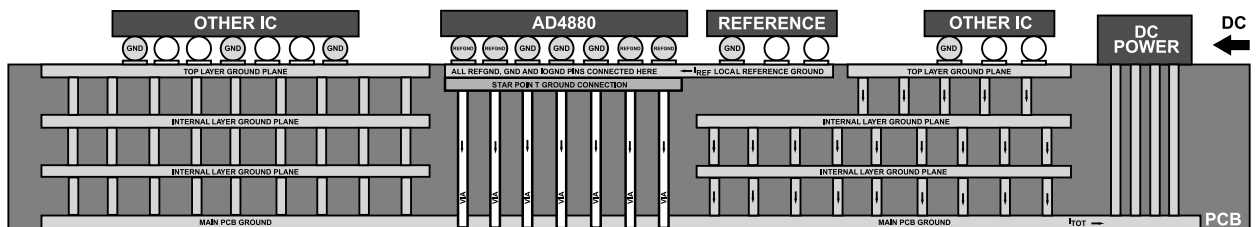

Figure 144. Recommended PCB Ground Planes Layout
- ▶ For the side view cross-section of the PCB board showing the ground planes distribution, see Figure 144. Note that Figure 144 only shows the ground planes but does not include the signal tracks.